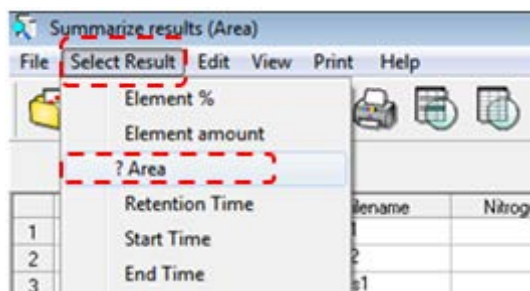

Fig.14 Checking the blank value
- 3.2.5 Click  and then click ***select result > area*** in the following window to check the blank value (fig.14). **Acceptable limits of blank value: N<3000, C<10000, H<20000, S=0.** Contact LFST if the data don't falls into the limited range.